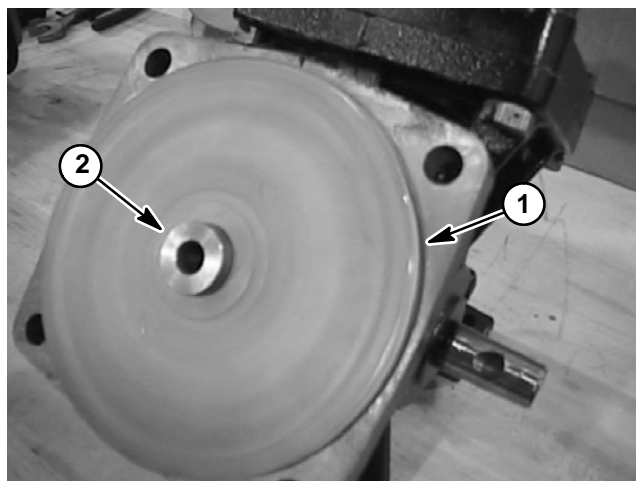
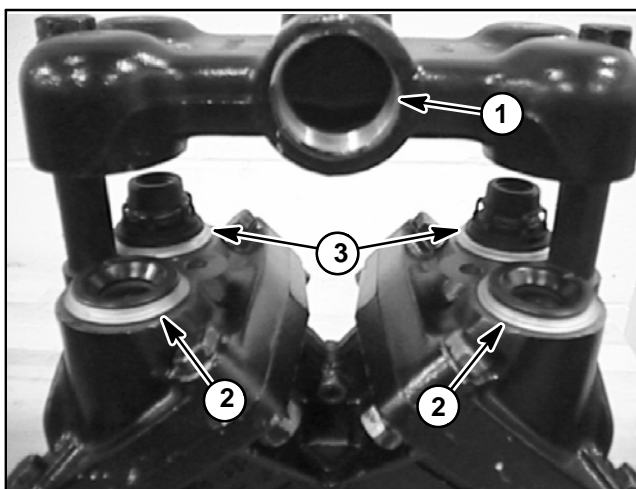

Figure 14
Figure 15
4. Place diaphragm back disc and new diaphragm onto each connecting rod. The connecting rods should extend above the diaphragms when correctly installed (Fig. 14). Position nylon washer and washer on each connecting rod and then thread hex bolt into connecting rod. Torque bolt to **60 ft-lb (81 N-m)**.
5. Make sure that pump casings align and then secure pump casing assembly by torquing five (5) bolts to **32 ft-lb (43 N-m)**.
7. Place new O-rings and valves into diaphragm cover openings (Fig. 15). Inlet valves should be installed with the spring down into the cover. Outlet valves should be installed in with the spring up and away from cover.
8. Place valve chamber over valves noting orientation of chamber inlet and outlet. Secure valve chamber with two (2) hex bolts. Torque bolts **60 ft-lb (81 N-m)**.